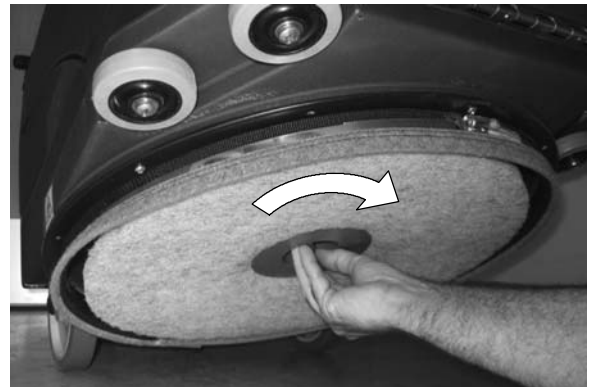

FIG. 5
- Attach the pad to the pad driver and secure pad with centerlock (Figure 5).